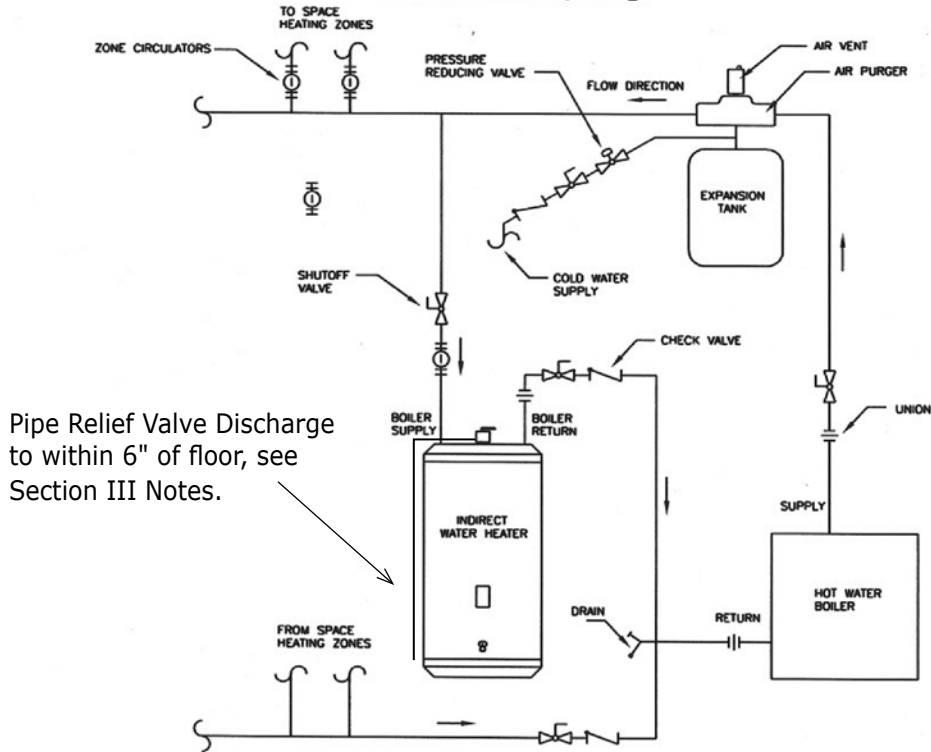

FIGURE 3 - BOILER WATER PIPING WITH ZONE CIRCULATORS
1. Determine where the boiler, the space heating, and the water heater connections should be made based on the type of piping system that is either in place, or is to be installed for a new hydronic system installation. See Figure 2, Boiler Water Piping with Zone Circulators, and Figure 3, Boiler Water Piping with Zone Valves.
For a space heating system that uses Zone Valves, refer to Figure 3. The water heater connection labeled "BOILER SUPPLY" should be piped to the boiler supply piping after the air purger and before the space heating circulator. Mount the water heater circulator as close as possible to the water heater, and make sure the flow arrow points toward the water heater. The use of a shut-off valve is recommended for future service convenience.